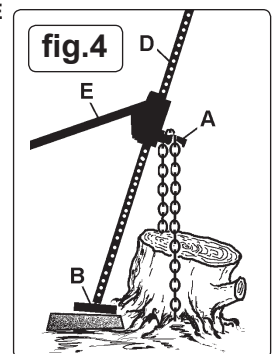
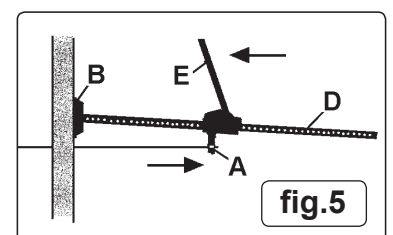

fig.4
fig.5
- 4.3.1. The jack may be used for a variety of other purposes such as tensioning fences (See fig.5), pulling out tree stumps (See fig.4) and positioning of heavy items such as machinery. In all cases such operations should begin with a risk assessment exercise including consideration of the following points.